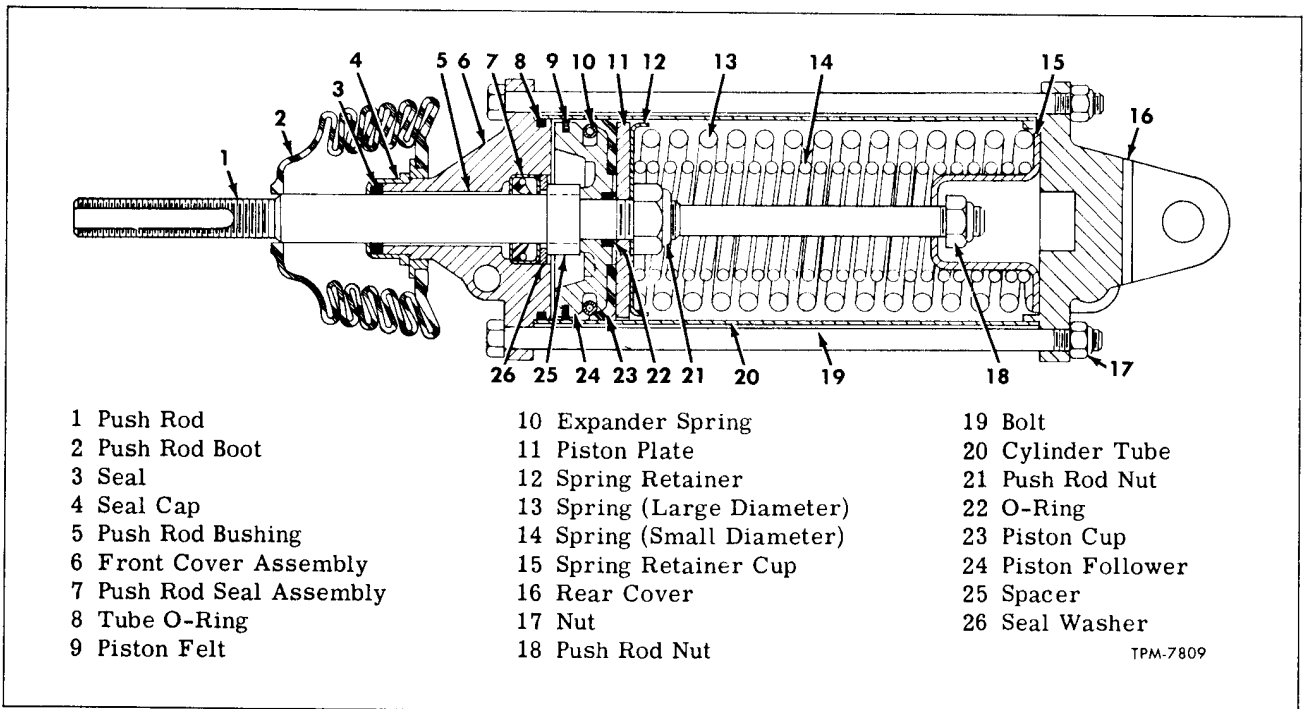

Figure 70—Compressor Clutch Control Air Cylinder Assembly
Clutch control air cylinder (fig. 70), pivot-mounted to side of compressor is employed to engage and disengage the compressor clutch. When cylinder push rod is retracted by air pressure supplied by the control air solenoid valve, clutch becomes engaged. When solenoid valve closes, exhausting air supply to cylinder, springs within cylinder extend the push rod to cause clutch to become disengaged.
NOTE: Key numbers in text refer to figure 70.
NOTE: Key numbers in text refer to figure 70. Refer to this view for positioning of parts when assembling unit.
1. Install new seal assembly (7) into front cover (6). Install seal washer (26). Stake washer in four places.
2. Slide small diameter end of push rod (1) into boot end of front cover (6) and through seal.
3. Place spacer (25) into position on push rod.
4. Place piston follower (24) on push rod, then install small O-ring (22) into recess of follower.
5. Referring to figure 70 for proper positioning of parts, install piston felt (9) and expander spring (10) into grooves of follower (24), install piston cup (23), piston plate (11), spring retainer (12) and new push rod nut (25). Tighten nut firmly.
6. Place push rod and front cover in arbor press fixture, then place springs (13 and 14) into position. Carefully press spring retainer cup (15) over end of push rod to allow installation of new push rod nut (18). Tighten nut firmly.
7. Locate tube O-ring (8) into groove of front cover.
8. Coat inside of cylinder tube (20) with Lubriplate, then place tube over springs to front cover. Locate rear cover (16) to tube. Align marks on tube and covers which were made prior to disassembly. Install four bolts (19) and nuts (17). Tighten nuts evenly.
9. If previously removed, install seal (3) and seal cap (4).
10. Apply small quantity of clean grease to push rod, then install push rod boot (2) to front cover.